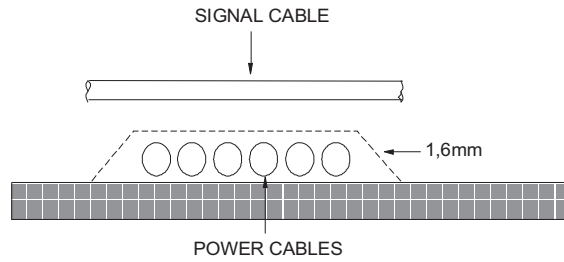

Fig. 9.11 - Right- angled Intersection between Power and Signal
- 3-Cross the signal and power cables as shown in figure 9.11.
**Note:** If unshielded cables are used, it is desirable to set an iron sheet of at least 1.6 mm thickness between the power and signal cables as indicated in figure 9.11.